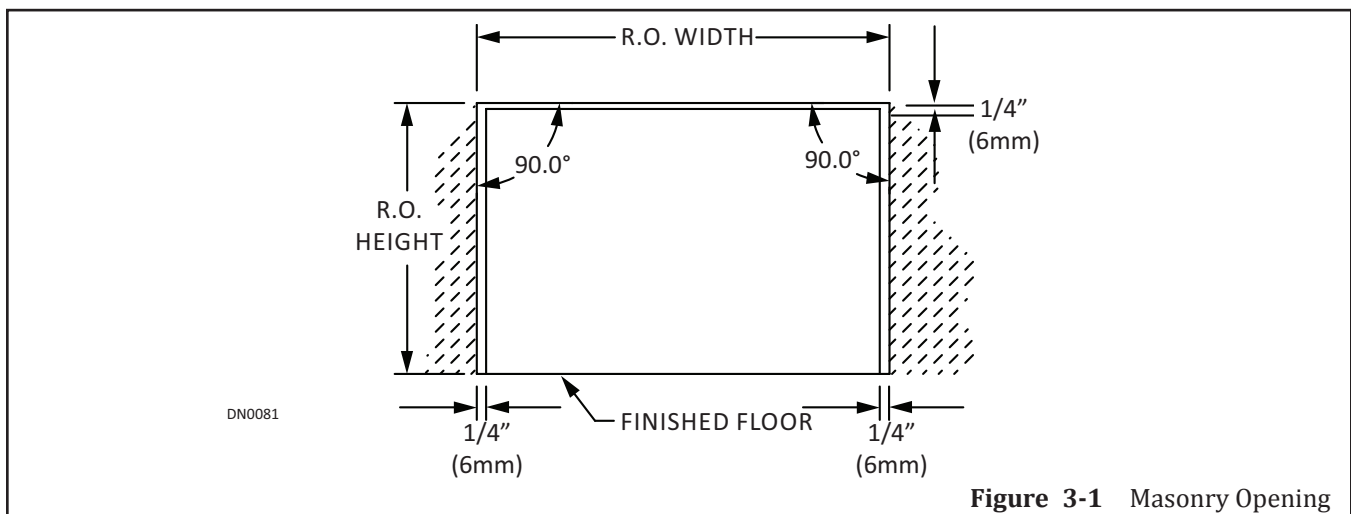

Figure 3-1 Masonry Opening
1. Ensure the Rough Opening is the correct size. Please see Figure 3-1.